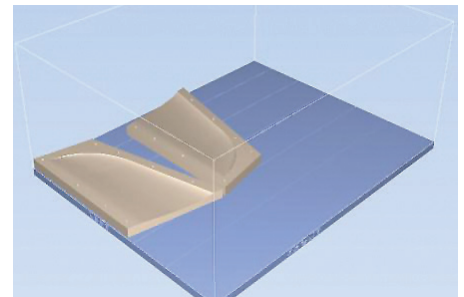

Figure 4: Matching surfaces face up.
- If surface matching is required, place all matching surfaces face up (Figure 4).